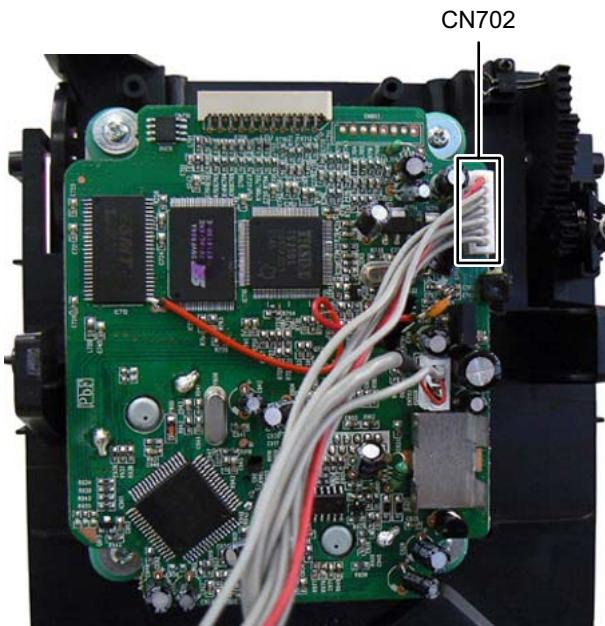

Fig.10
- (6) Disconnect the connector wire from MAIN BOARD assembly connected to connector CN702 of the CD BOARD assembly. (See Fig.10)